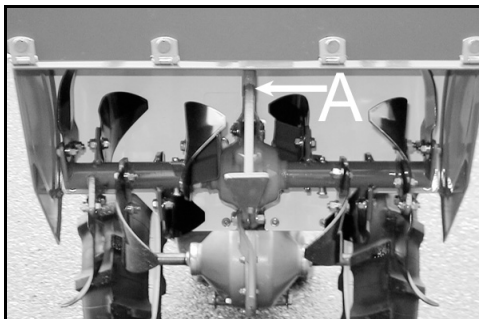

Figure 20-1
- Stand (A, Figure 20-1(SF600), 20-2(SF600D)).